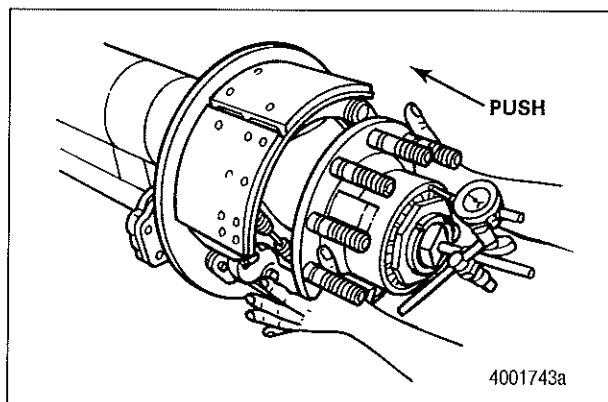

Figure 29
- Slightly rotate the wheel end in both directions while pushing inward until the dial indicator does not change. Set the dial indicator to **ZERO**. Figure 29.